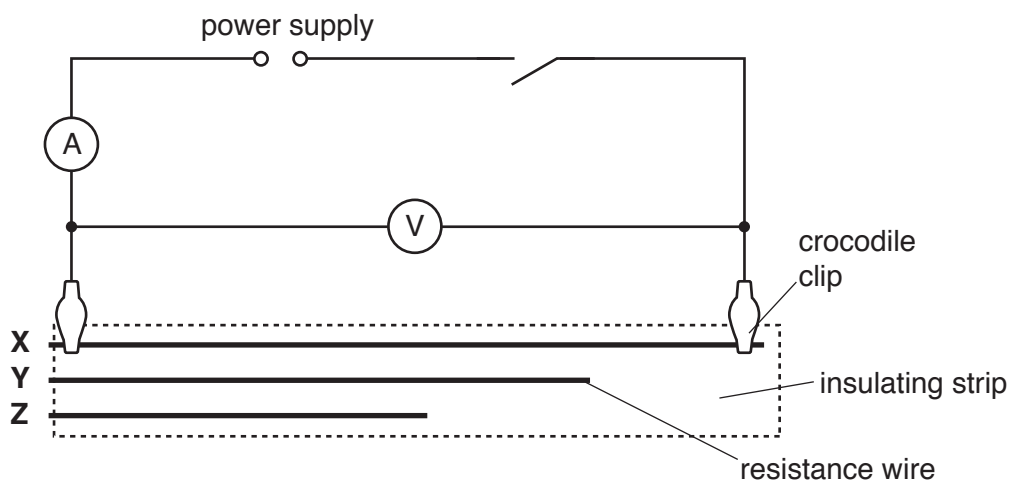

Fig. 2.1
- (v) Sufficient connecting leads to set up the circuit shown in Fig. 2.1.
2. The circuit is to be set up for candidates as shown in Fig. 2.1, with the crocodile clips connected to resistance wire **X**. The circuit should be switched off.
Ensure that the circuit is connected as shown in Fig. 2.1 and check that the circuit is working. Switch the circuit off.